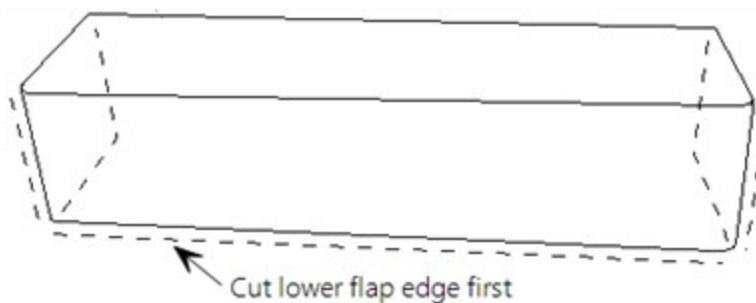

FIGURE 3-1. Cut flap packing tape
1. Open shipping carton(s). Solar panel and radio frequency (RF) items (if any) may be packed in a separate box.
3. Position the box as shown in FIGURE 3-1 (p. 3).
4. Cut the tape along the edge of the lower flap first (FIGURE 3-1 (p. 3)).